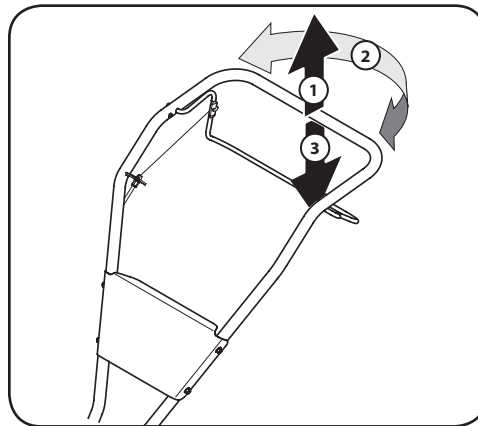

Figure 3-5
1. To begin a turn, lift the handlebars until the tines are out of the ground and the engine and tines are balanced over the wheels. See Figure 3-5.
2. With the tiller balanced, push sideways on the handlebar to steer in the direction of the turn. See Figure 3-5.
3. After turning, slowly lower the tines into the soil to resume tilling. See Figure 3-5.